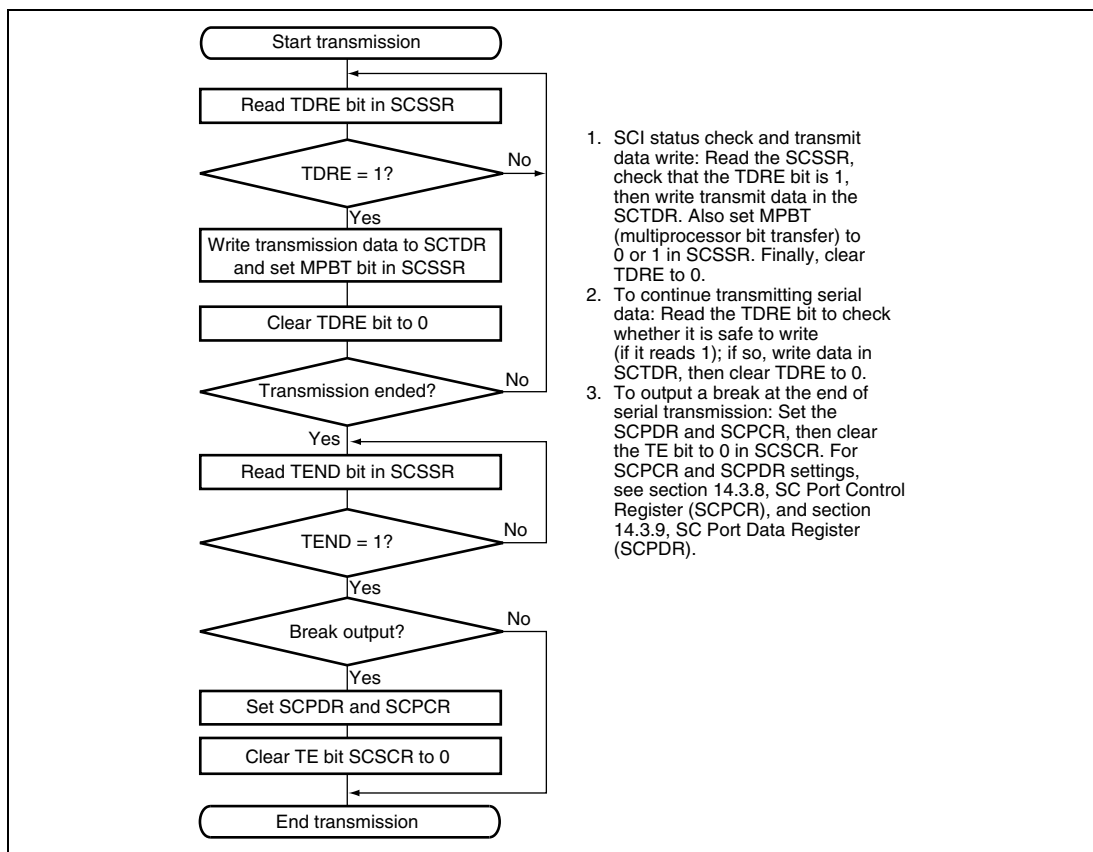

**Figure 14.13 Sample Flowchart for Transmitting Multiprocessor Serial Data**
**Transmitting Multiprocessor Serial Data:** Figure 14.13 shows a sample flowchart for transmitting multiprocessor serial data. Transmission of multiprocessor serial data should be carried out in the following procedure after setting the SCI in a transmission-enabled state.